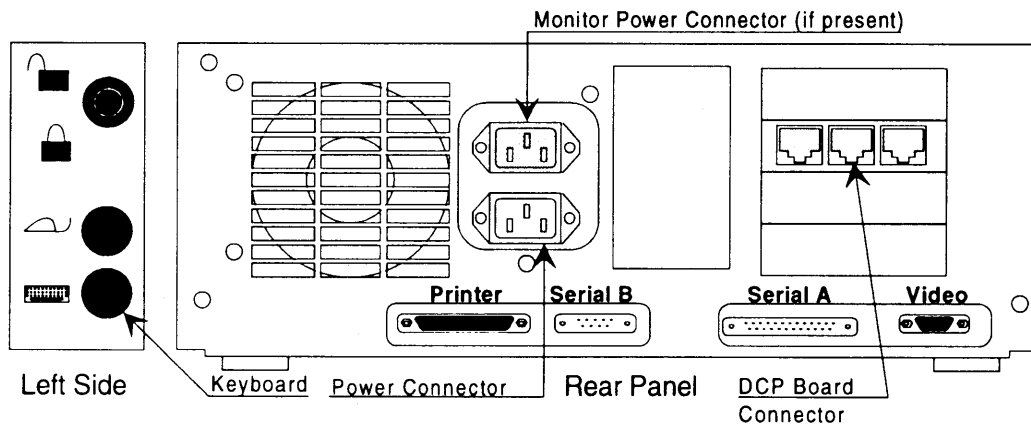
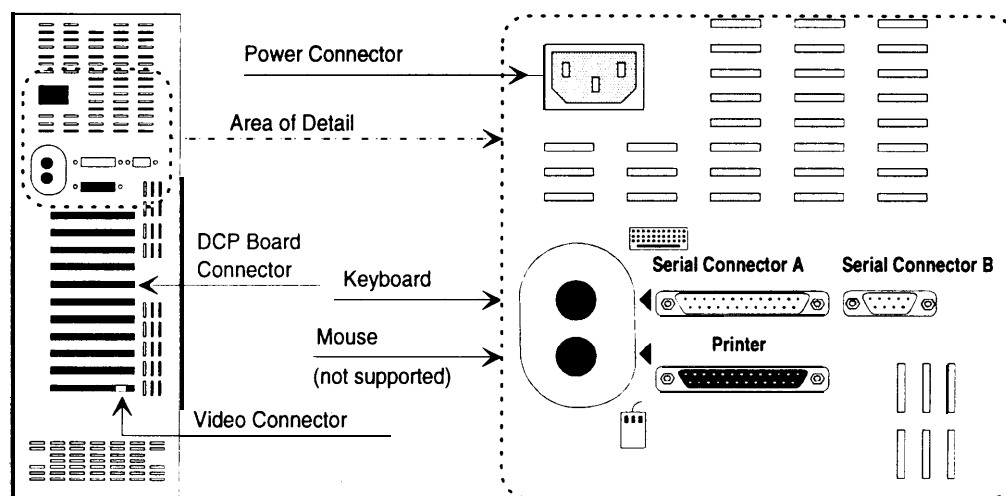
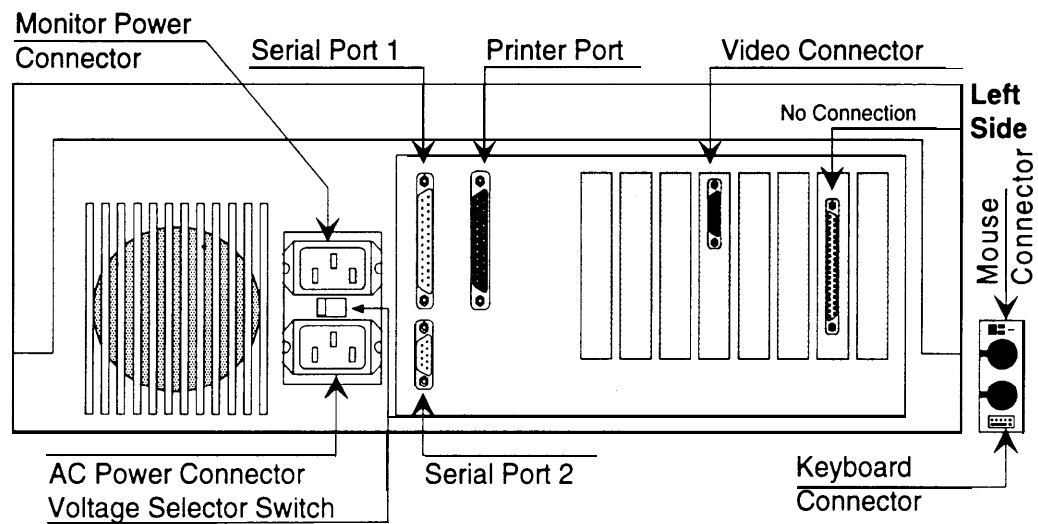
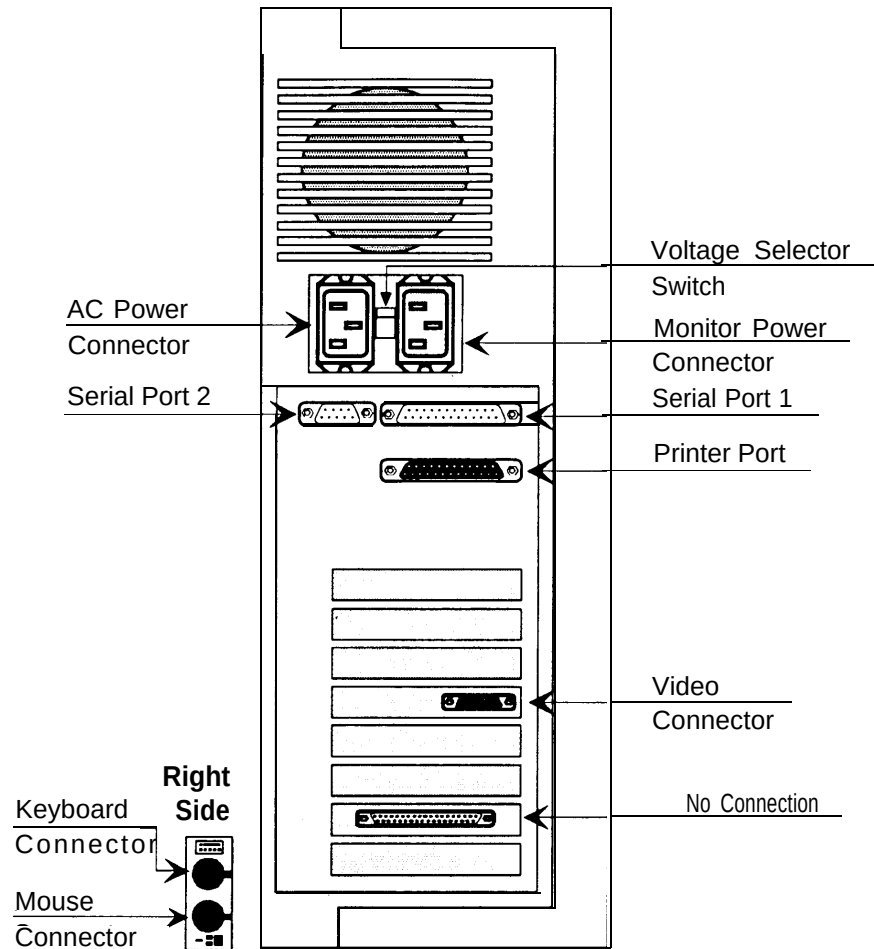

Figure 2-2. Master Controller II+ Connector Locations
Figure 2-3. Master Controller III Connector Locations
Figure 2-4. MAP/5 Connector Locations (Desktop Configuration)
Figure 2-5. MAP/5 Connector Locations (Tower Configuration)
The connectors for the Master Controller II+ are on the rear and left side. The connectors are shown in Figure 2-2:
The connectors for the Master Controller III are on the rear. The connectors are shown in Figure 2-3:
The connectors for the MAP/5 are on the rear and on one side (left for desktop, right for tower) near the front. The connectors are shown in Figure 2-4 (desktop) and Figure 2-5 (tower).
1. Connect the video display cable to the connector on the system unit with the same size shell and the same number of pins. The connector has three rows totaling 15 pins. The other, similarly sized connector on the system unit has two rows totaling 9 pins. Connector locations are shown in Figure 2-2, Figure 2-3, Figure 2-4 and Figure 2-5.
- On the Master Controller II+, the socket for the keyboard connector is located on the left side at the bottom. Refer to Figure 2-2. The keyway should face upward.
- On the Master Controller III, the socket for the keyboard connector is located on the rear. It is the upper of two similar connectors. Refer to Figure 2-3. The keyway should face upward.
- On the MAP/5, in the desktop configuration, the socket for the keyboard connector is located on the left side at the bottom. Refer to Figure 2-4. On the MAP/5, in the tower configuration, the socket for the keyboard connector is the upper of the two sockets located on the right side near the bottom of the system unit. Refer to Figure 2-5. In both cases, the keyway should face toward the front of the system unit.
2. Plug the other end of the cable into the parallel port socket on the Master Controller. Refer to Figure 2-2, Figure 2-3, Figure 2-4, or Figure 2-5.